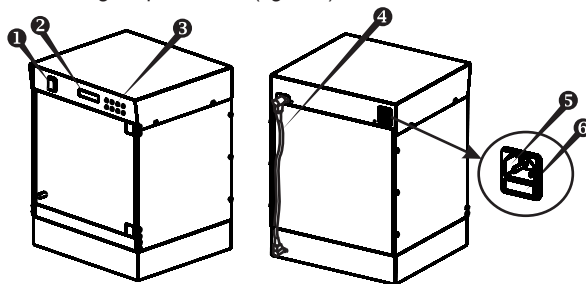

Fig.1 Unit construction
- power switch (fig.1/①);
- display (fig.1/②);
- control buttons (fig.1/③).
- shaking block control cable (fig.1/④);
- socket for connecting the power cord (fig.1/⑤);
- fuse holder (fig.1/ ⑥).
- Connect the shaker control cable (fig.1/④) into the corresponding sockets on the rear of the thermostatic and shaking blocks;
- Plug the mains cable into the socket on the rear (fig.1/⑤) and position the unit so that there is easy access to the power switch and connector.